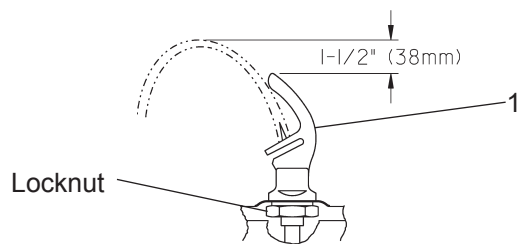
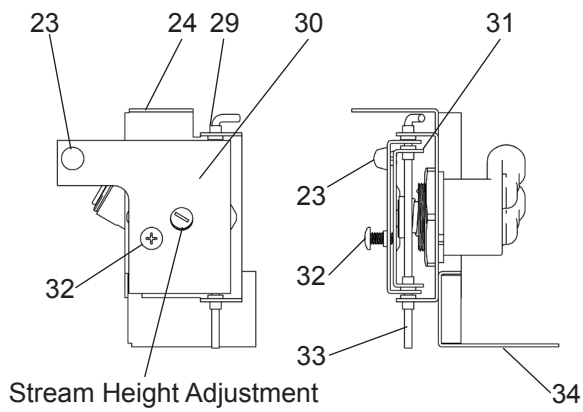
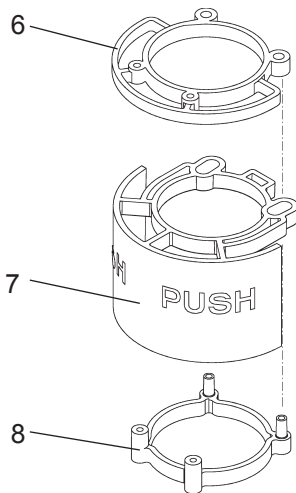

Figure 6 - Bubbler Detail
Figure 7
Figure 8 - Push Bar Mechanism
14. **Check** stream height from bubbler. Stream height is factory set for 35-40 PSI supply. If supply pressure varies greatly from this, remove items 6, 7, and 8 (push arm and the bottom and the top actuator plates – Fig. 8) by removing the screws holding assembly together and adjust the screw on the regulator (Item 19 – Figs. 7 & 9). Clockwise adjustment will raise stream height and counterclockwise movement will lower stream height. For best adjustment, stream height should be approximately 1-1/2" (38mm) above the bubbler guard. (See Fig. 6).
When installing replacement bubbler and pedestal (Fig. 6), tighten locknut only to hold parts snug in position. **Do Not overtighten.**